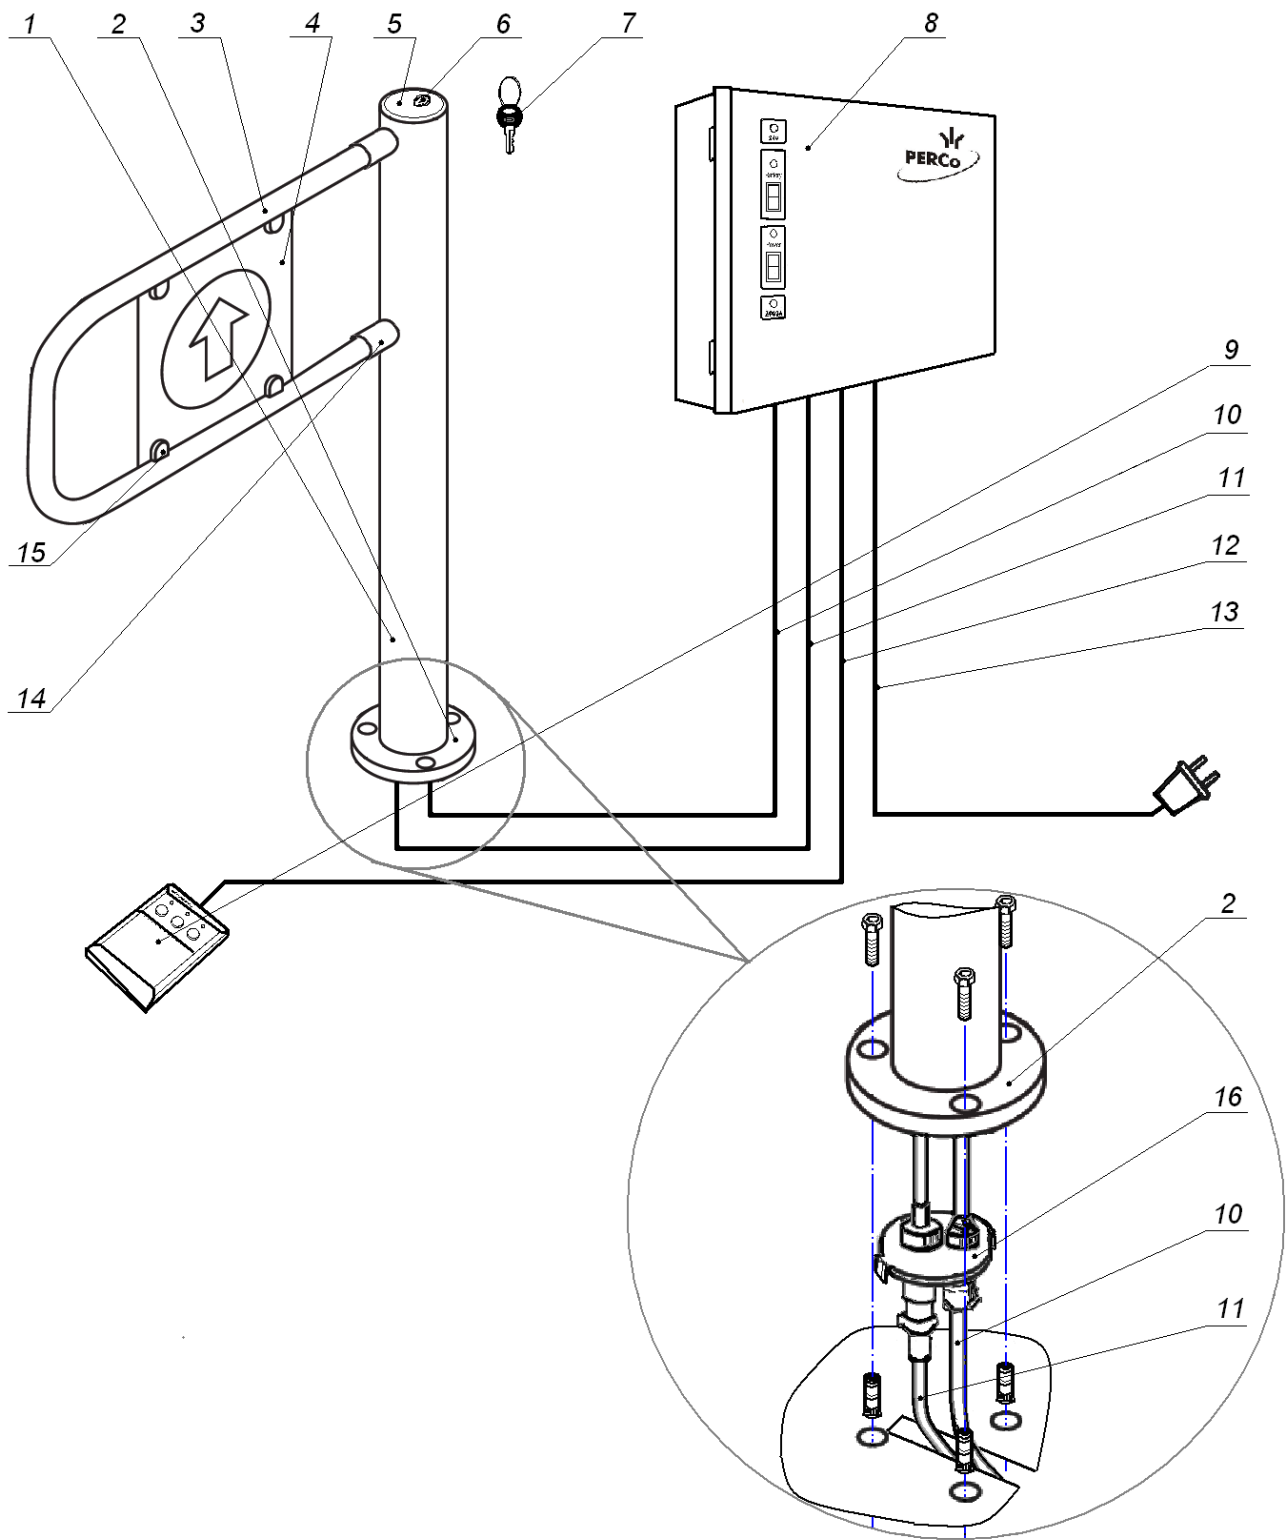

Figure 2 WMD-05S overall view
Design of the swing gate is shown in Figure 2. The numbers of the items in brackets are given according to Figure 2 unless stated otherwise.
To unlock the swing gate it is necessary to insert the key (7) into the lock (6) (see Fig. 2) and turn it 90° clockwise.